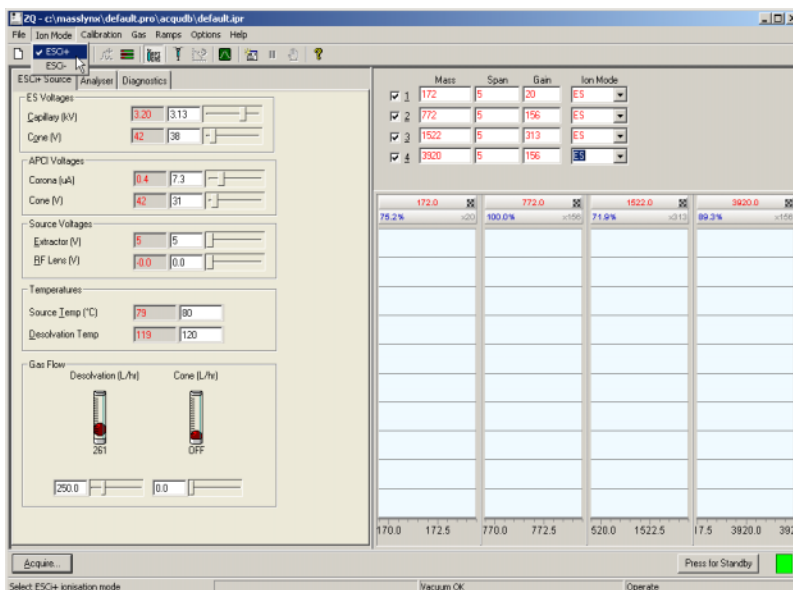

Figure A-6 Selecting the ESCi+ or ESCi- Ionization Mode
- Select **Ion Mode** > **ESCi+** or **ESCi-** to enable the positive or negative ESCi ionization mode (Figure A-6).